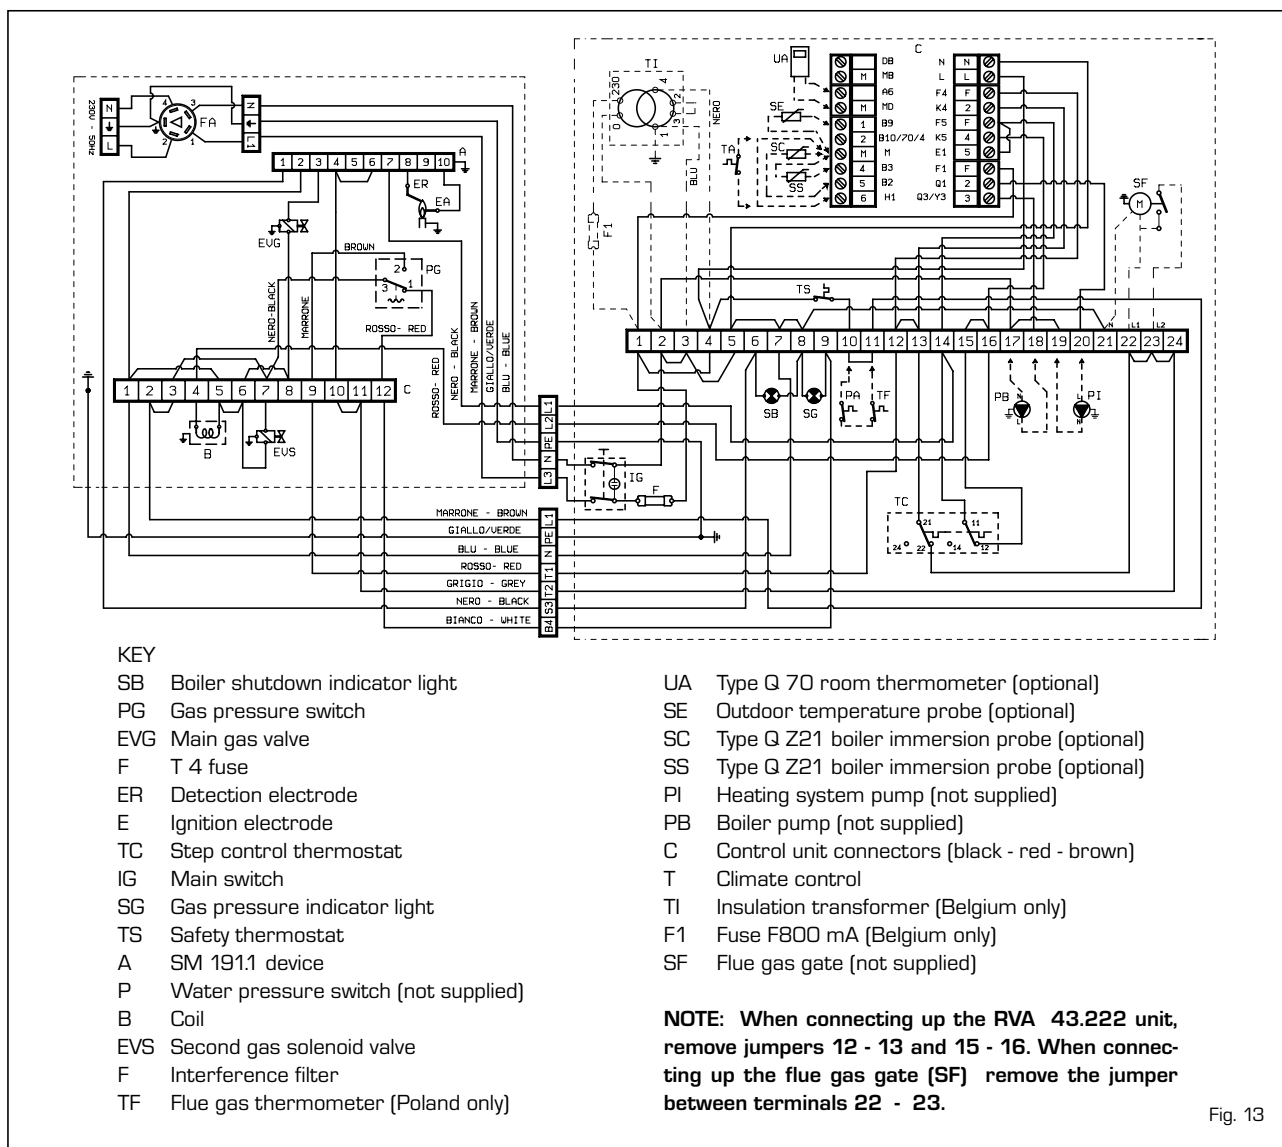

Fig. 13
The electrical power supply must be connected to terminals L and N and to the panel complying with all phase and neutral positions as shown in the diagram. If they are not connected properly, the flame detection circuit will not work and the boiler will be shut down. The boiler must be connected up to a single phase 230V-50Hz power supply through a main switch protected by fuses with at least 3 mm between contacts (fig. 13).
All boiler functions can be controlled by the optional control unit code 8096303, supplied with an outdoor temperature probe (SE) and boiler immersion probe (SC) (fig. 14). Use of the control unit requires connection of an additional series of low voltage connectors for connection of probes and the room temperature control unit (the connectors are supplied in a bag in the control panel). The bulb of the sensor of the external D.H.W. tank (SS), optional code 6277110, must be inserted in the hot water sheath and the boiler probe (SC) in the boiler sheath. To assemble the outdoor temperature probe (SE), follow the instructions provided on its packaging. Refer to the wiring diagram in fig. 13 for electrical connections.
To install the control unit, connect these connectors and remove jumpers 13 - 14 and 16 - 17 from the terminal board (fig. 13). The control unit also permits use of room temperature control units and probes; polarised, coloured connectors for these are located in a bag inside the control panel.